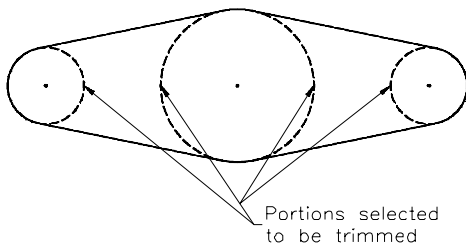

Figure 3-61 Selecting the portions to be trimmed
4. Specify a point on the right half of the circle that is on the left side of the sketch. The portion on the right of this circle will be trimmed. Similarly, select portions of the other circles also to trim, as shown in Figure 3-61.